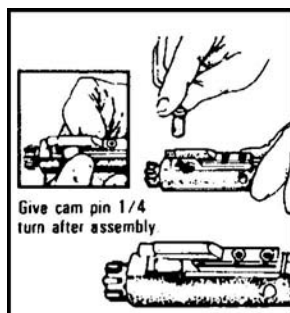

Figure 28. Replacing the bolt cam pin.
- e. Replace the bolt cam pin by putting it in the bolt carrier, turning it one-quarter turn (Figure 28).